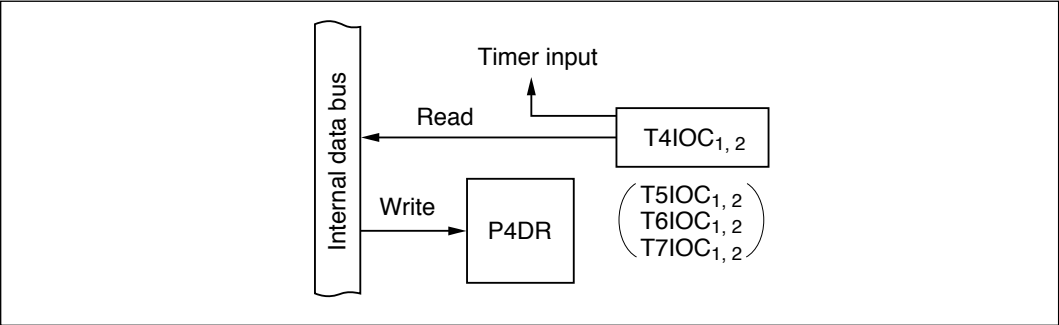

Figure 9-26 Input Capture Combined with General-Purpose Input (Modes 1 to 7)
(5) Timer Input Combined with General-Purpose Input (Modes 1 to 7): Figure 9-26 shows a block diagram illustrating the input capture function when combined with general-purpose input. Table 9-19 indicates register read/write data. An input capture pin can also be read as an input port, to monitor the timer input level at T4IOC₁, T4IOC₂, T5IOC₁, T5IOC₂, T6IOC₁, T6IOC₂, T7IOC₁, or T7IOC₂.